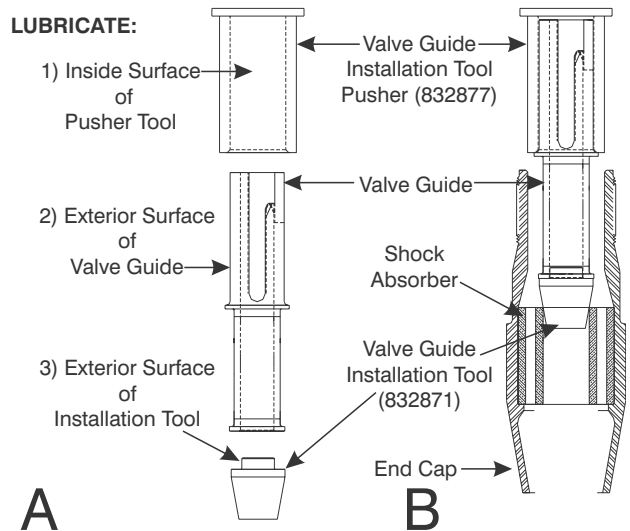

Figure 9-5. Prepare Valve Guide for Installation into the Shock Absorber.
10. Lubricate the I.D. of the Shock Absorber (8) and the I.D. of the Valve Guide Installation Tool 832877. Lubricate the exterior of the Valve Guide Installation Tool 832871 and the Valve Guide (7) . Refer to Figure 9-5-A.
11. Center the Valve Guide Installation Tool 832871 and the Valve Guide (7) over the bore of the shock absorber as shown in Figure 9-5-B.
12. Slide the Valve Guide Installation Tool - Pusher (832877) over the upper end of the Valve Guide as shown in Figure 9-5-B.